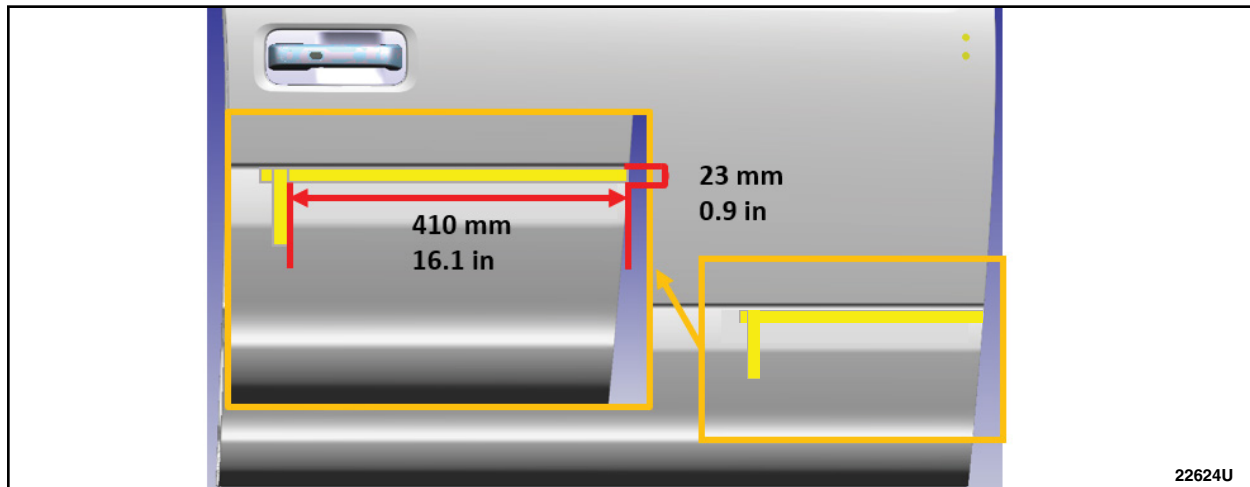

FIGURE 8
34. Measure and apply locating masking tape to the front RH door outer panel. See Figure 8.